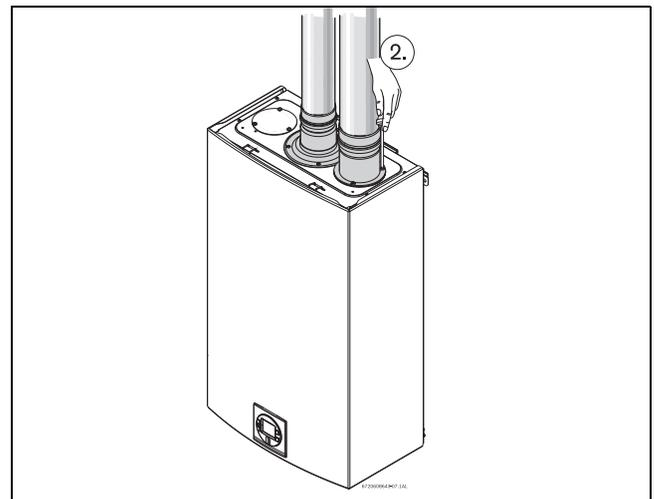

Fig. 17 Inlet connection
- ▶ Attach the combustion air inlet accessory to the top of the unit fig. 17 (position 2) using the 3 screws and gasket provided, and install 3" air intake pipe over the accessory.